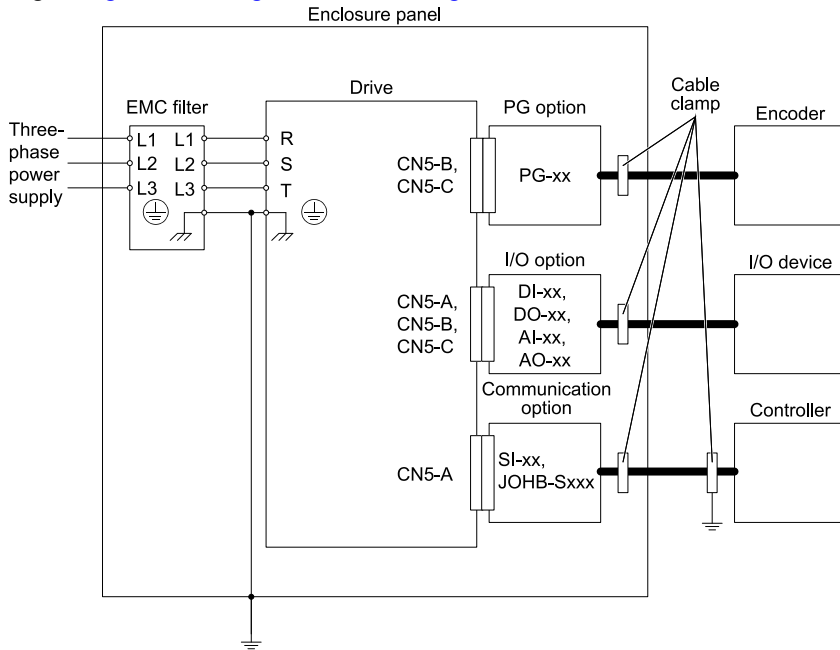
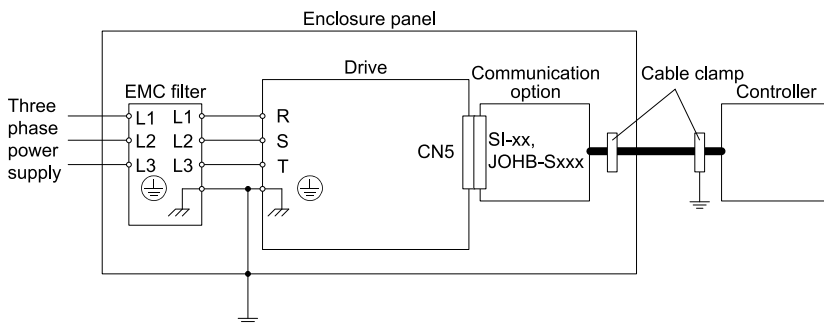

Figure 11.2 Option Installation for CE Compliance: 1000-Series, GA700, GA800, CR700, CH700
Figure 11.3 Option Installation for CE Compliance: GA500, HV600
- Keep wiring as short as possible and ground the largest possible surface area of the shield to the metal panel according to Figure 11.2, Figure 11.3, and Figure 11.4.